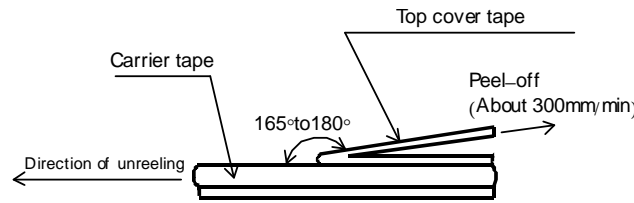
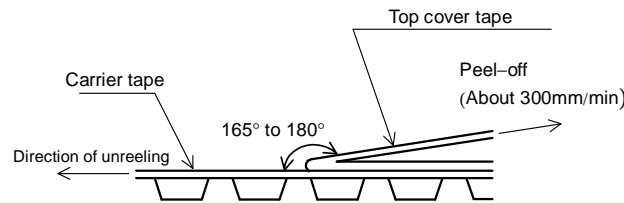

Figure-8
Figure-9
- 5). The peel strength of the top cover tape shall be with in 0.1N to 0.5N on the test method as shown in the following RLP16, 20, 32, MLP20: Figure-8, RLP63, MLP63: Figure-9.